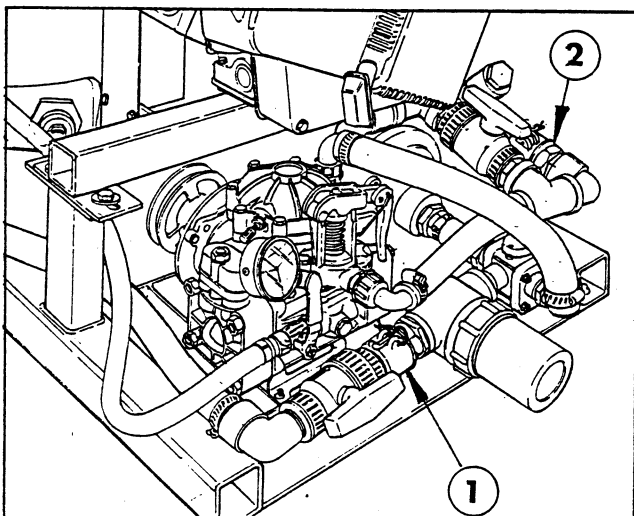

FIG. 1
Remove the Sprayer Skid from it's shipping skid. For ease of handling, while connecting the Hoses to the Tank, disconnect the 1" x 53" Suction Hose and the 1/2" x 45" Agitator Hose at their respective Quick Couplers. See FIG. 1.
8. Re-connect the Suction and Agitator Hose at their respective Quick Couplers as shown in FIG. 1, page 1.